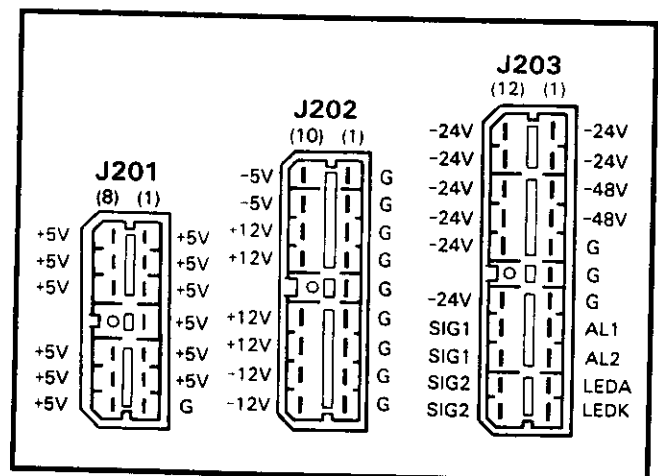

FIGURE 8—FPSA PINS
- 11) Using a multimeter (set to the appropriate ranges), check the pins on connectors J201, J202, and J203 for the voltages shown in Figure 8. (The connectors are located on the rear of the power supply chassis). Measure between the voltage pin and a ground pin. (All ground leads are tied to a single point, so any can be used). Table A denotes the accept-